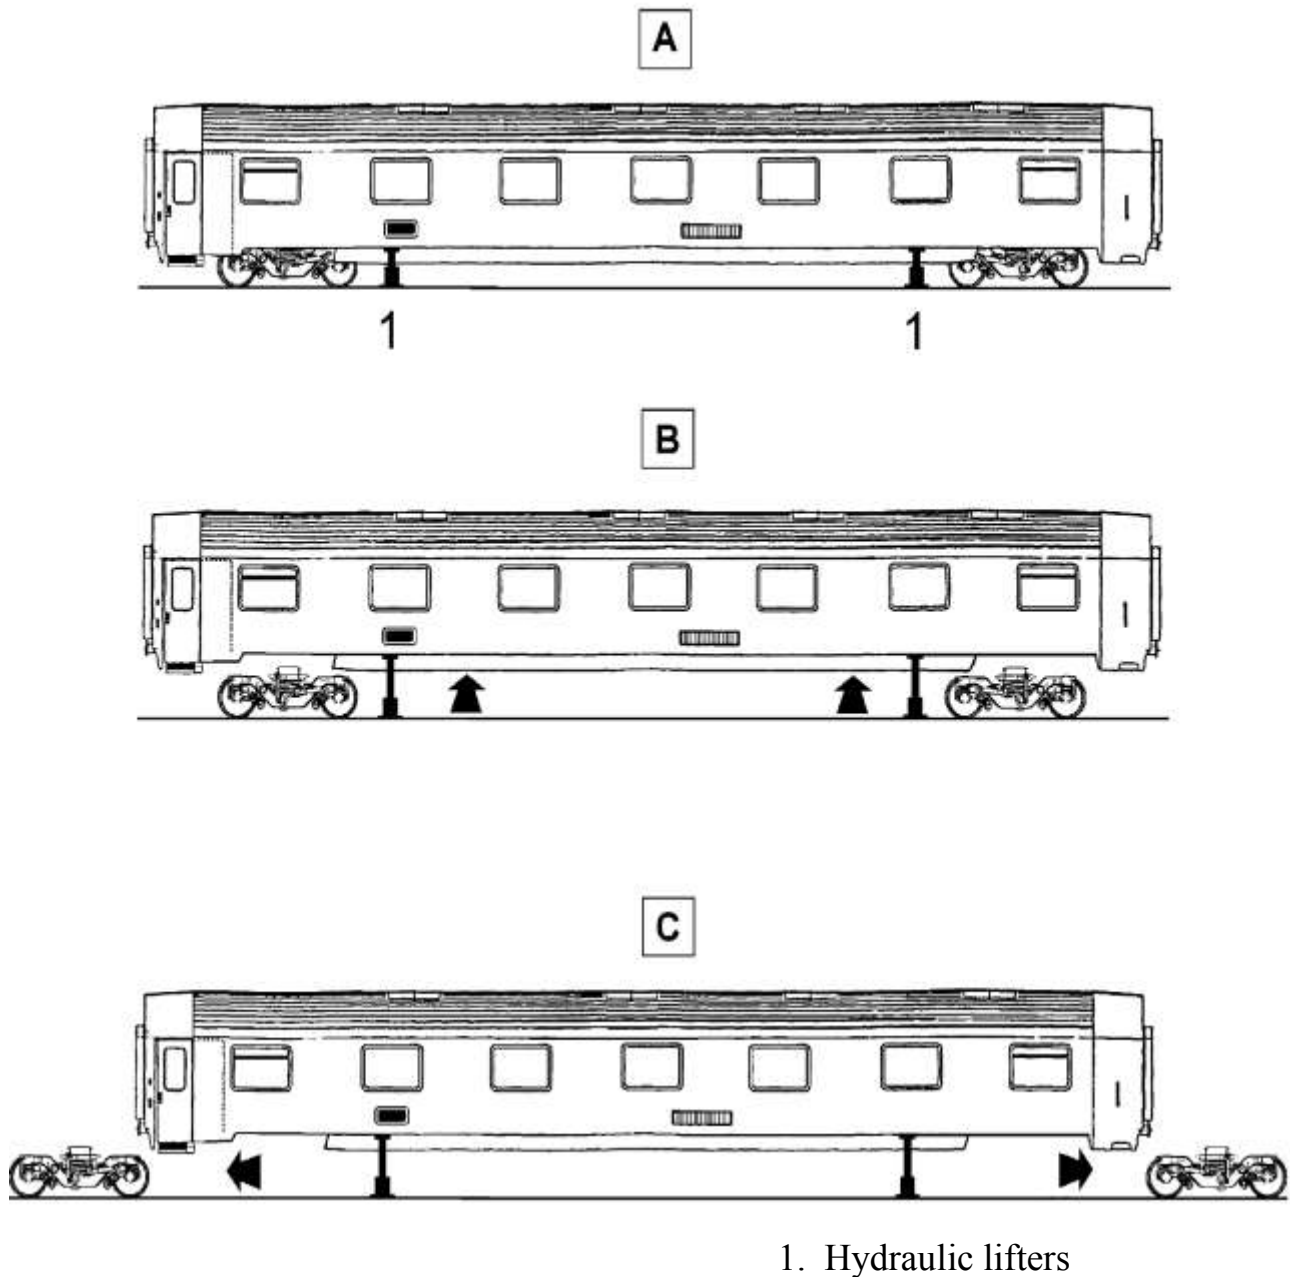

FIG. 4-18 Removing the Bogie From Under the Car Body
- A. Put four hydraulic lifters (1 - FIG. 4-18) under the sides of the car body.